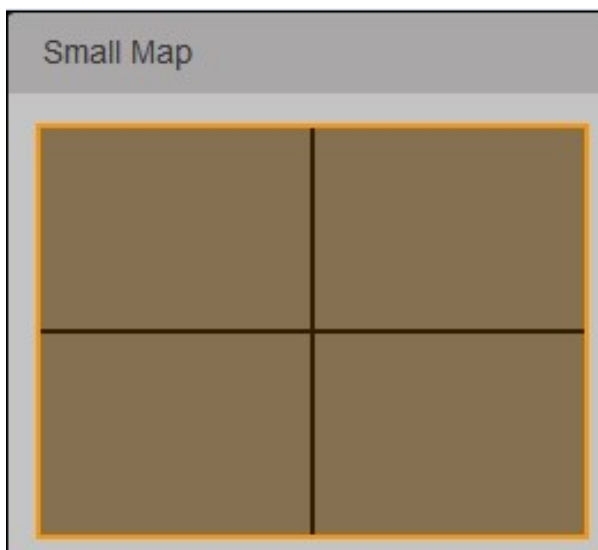

Figure 4-26
Step 1 Click . The system displays "Small Map" interface, as shown in Figure 4-26.